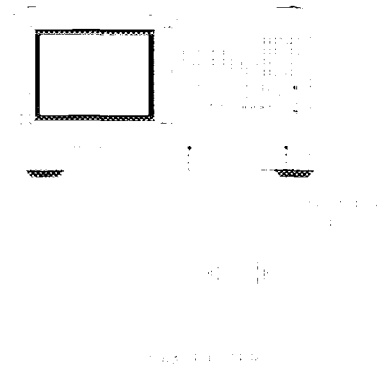

Figure 4-18. Device Connections for Time Domain Transmission
- 1 Connect the device as shown in Figure 4-18.